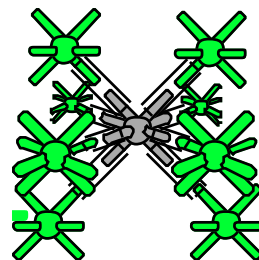

Fig. 4 Cation coordination number 8.
6. Each ion in a crystal is surrounded by several ions of opposite charge. The number of surrounding ions is the coordination number (CN). Bond one cesium with eight chlorides to form a separate model to show the cation CN of eight. (Fig. 4)